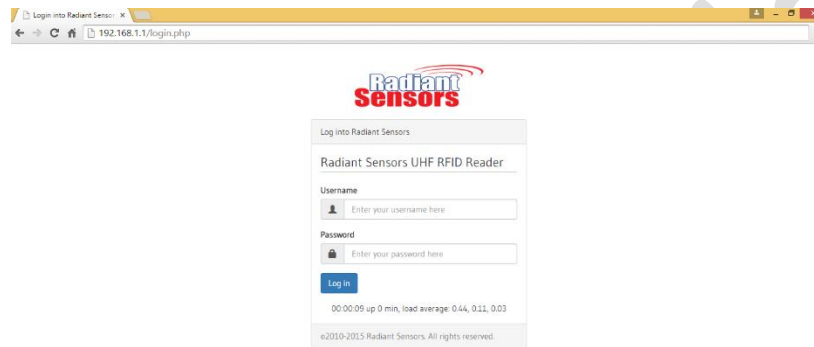

Figure 4, UHF RFID Reader Web Interface Login Page
- 1- Open <http://192.168.1.1> to proceed to the login page. If you can see the login page as per Figure 4, it means that you can connect to **UHF RFID Reader**, unless go to the troubleshooting section or contact **Radiant Sensors** support team.